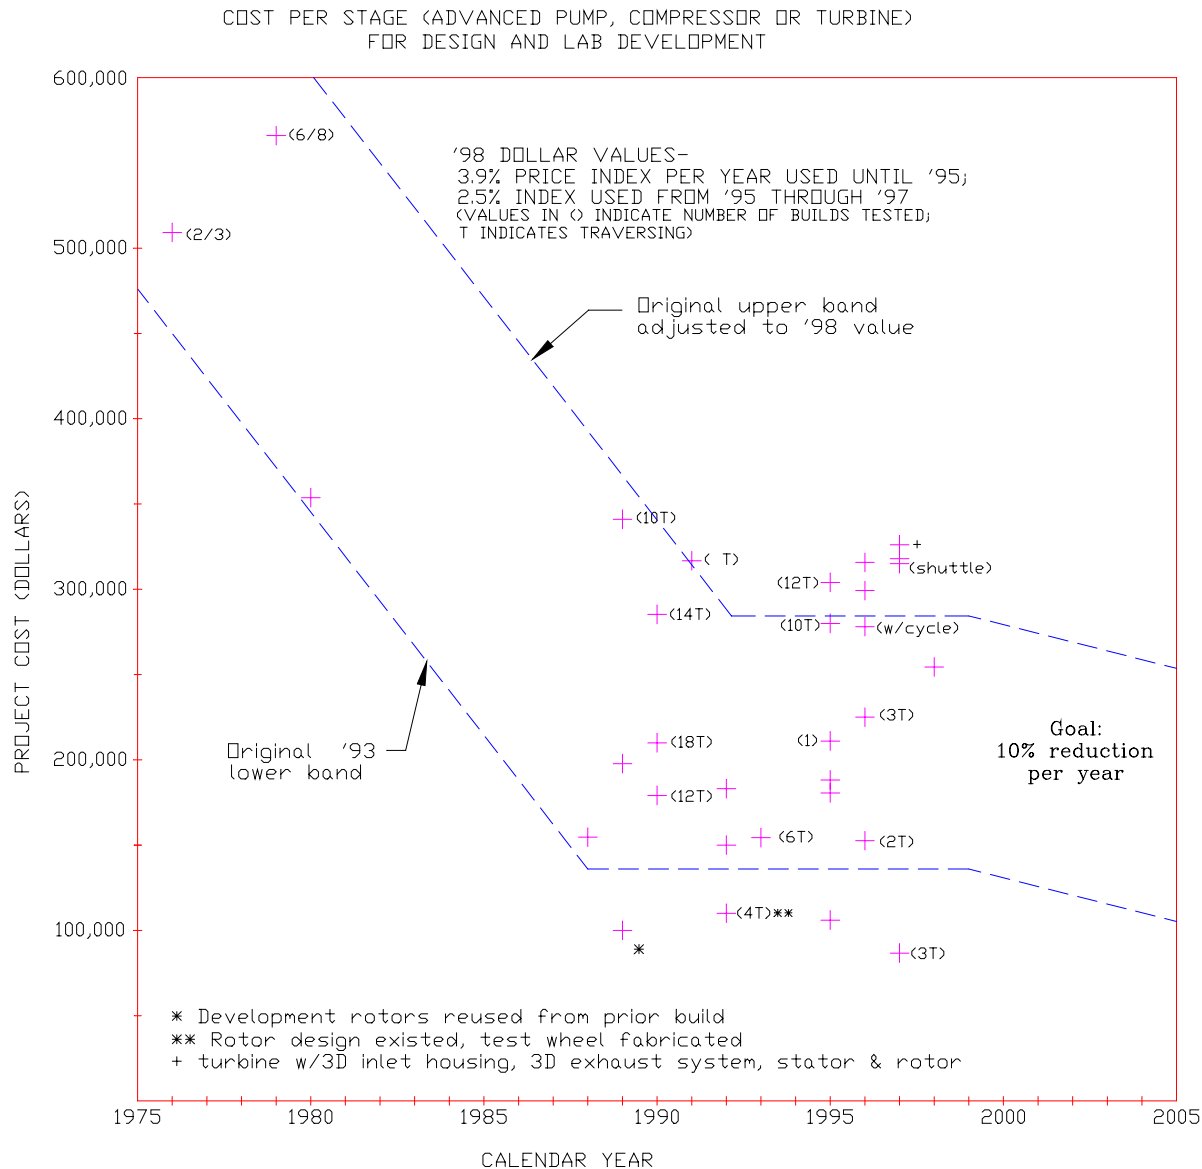

Figure 18.
- Figure 18 shows cost history